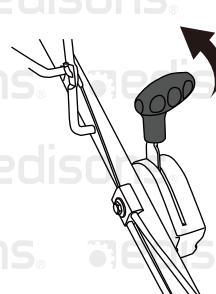

Fig. 14
2. Move the throttle lever (4) upward to run position (middle position of throttle control) (Fig. 14).